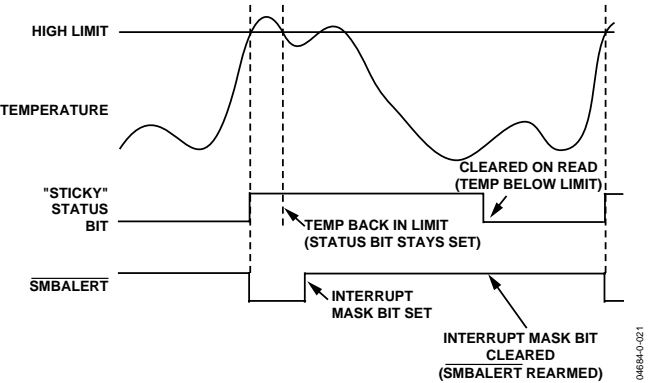

Figure 21. How Masking the Interrupt Source Affects SMBALERT Output
7. Periodically poll the status registers. If the interrupt status bit has cleared, reset the corresponding interrupt mask bit to 0. This causes the SMBALERT output and status bits to behave as shown in Figure 21.